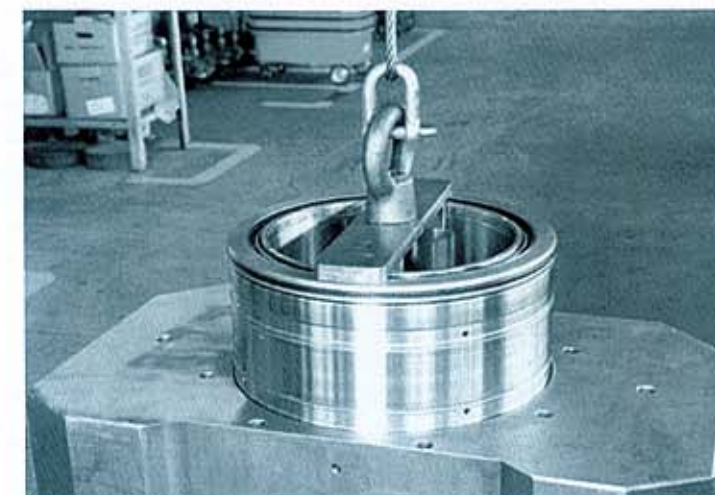

Fig. 3.19
- (1) Place the chock on a flat surface so that the chock bore center line is vertical. Clean the bore and apply a thin coat of grease.
- (2) Mark the maximum load position on the chock end face.
- (3) Use the appropriate lifting tool as shown in **Figs. 3.19** and **3.20** when taking the bearing out of the wooden box, or handling the inner ring properly, as well as when assembling the bearing to the chock.
- (4) Before assembly, confirm that the oil seal and O-ring are free from abnormality.
- (5) During assembly, tap the bearing lightly with a brass rod to correct its position if it has become cocked. Note in this case that the bearing end surface must not be hit directly. Apply a patch plate or tap the top of the lifting tool lid.
- (6) Change the load position number of the bearing each time the bearing is reassembled after disassembly and cleaning. The load position changes will contribute to a longer life.